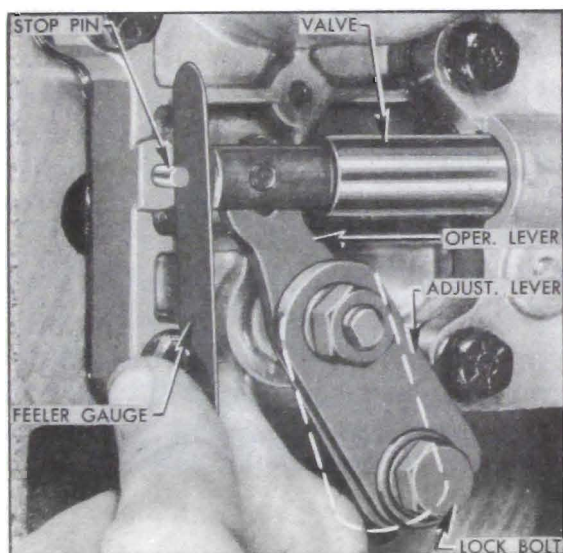

Figure 5-102—Control Valve Linkage Adjustments
8. Push the shift control valve away from the stop pin *just enough to remove play from valve linkage*, then check clearance between stop pin and end of valve, using feeler gauge. Clearance should be .030" to .040". See figure 5-102.
9. If clearance is not correct, loosen lock bolt and shift the adjusting lever on the valve lower operating lever as required to obtain specified clearance. Tighten bolt and nut on levers, making sure that adjustment does not change. See figure 5-102.